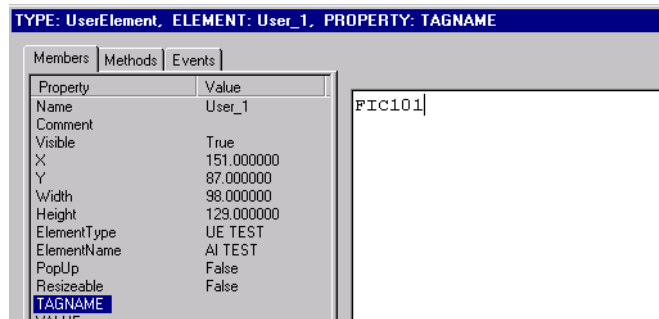

Figure 156. TAGNAME
1. Select the TAGNAME property in the property list. Then, in the edit field, enter the tagname for an AI object in your system, Figure 156.